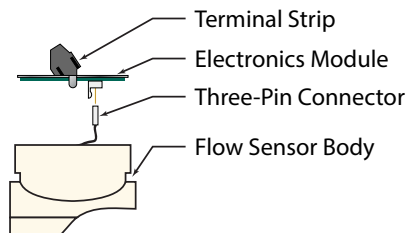

Figure 20: Electrical connection
- ◊ If the flow rate is sufficient, partially remove the electronic module. Check that the three pin connector that connects the electronics module to the flow transducers is positively connected. See Figure 20. Align and insert the connector on to the bottom of the electronics module if it is disconnected.